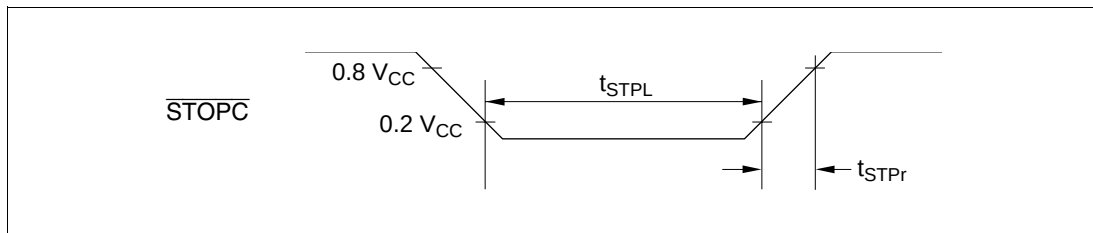

Figure 25-34 $\overline{STOPC}$ Timing (HD404369 Series)
6. See figure 25-34.
7. See figure 25-34.